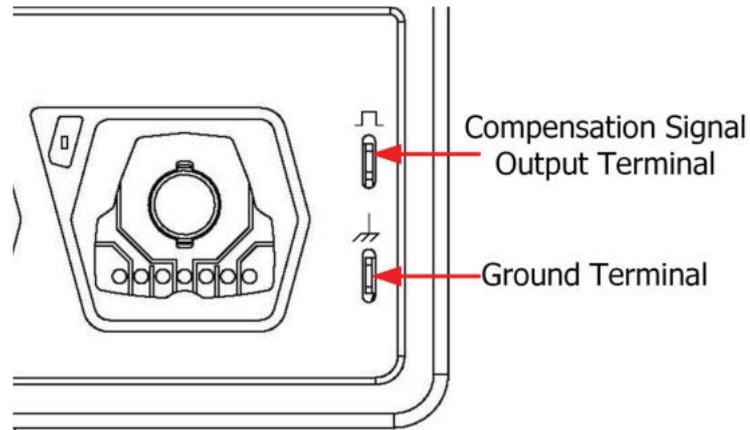

Figure 4.7 To Use the Compensation Signal
- 2 Connect the ground alligator clip of the probe to the "Ground Terminal" as shown in *Figure 4.7* below.
- 3 Use the probe to connect the input terminal of CH1 of the oscilloscope and the "Compensation Signal Output Terminal" of the probe, as shown in *Figure 4.7*.